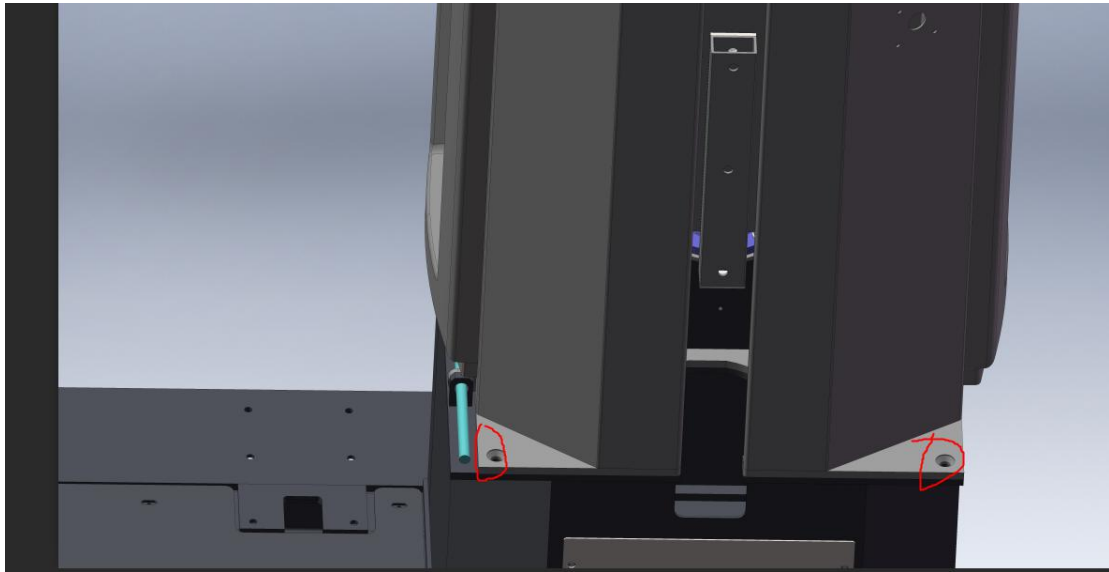

Figure 4.4 Lock the column
- (2) Fix the column on the turntable with tools as shown in Figure 4.4.